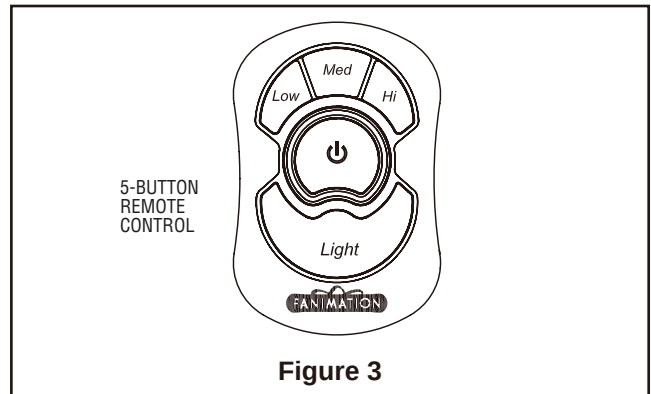

Figure 3
- ☐ 3. The 5-button hand-held remote transmitter includes five buttons for high, medium and low fan speeds as well as fan off and light on/off. Infinite light levels are available by holding the light on/off button (Figure 3).